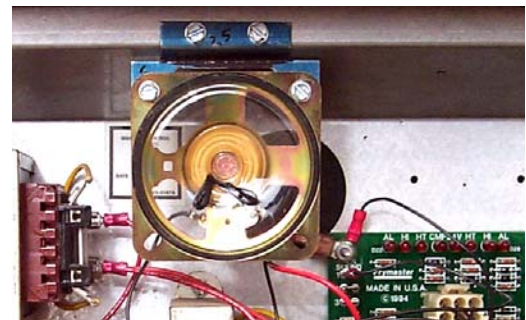

Figure 3: Mount speaker facing out as shown above.
7. Attach bracket as shown in Figure 3. Use self-tapping screws to secure speaker to new bracket.